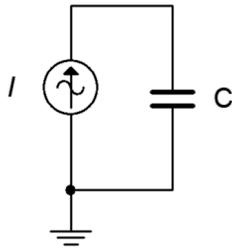

Figure 2.9
14. Draw the voltage and current waveforms for the circuit of Figure 2.9 if  $I$  is a 10 micro-amp peak sine at a frequency of 2 kHz and  $C = 6.8$  nF.